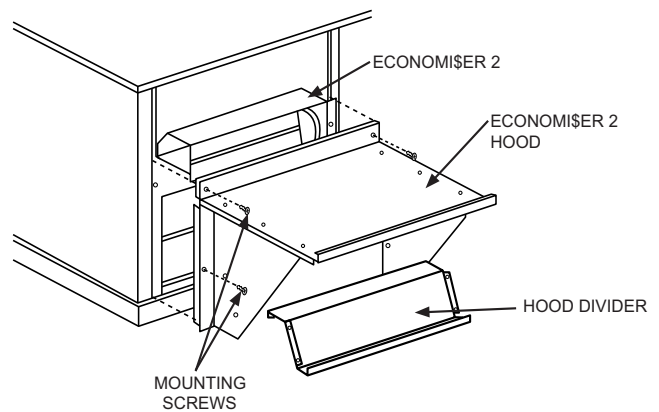

Fig. 8 — EconoMiSer® 2 Hood Installation
- Install the EconoMiSer 2 hood over the EconoMiSer 2 assembly. Use screws provided (see Fig. 8).